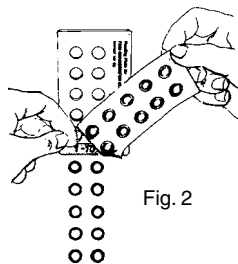

Fig. 2
**Check test sites** immediately after removal of the tests. A ring-shaped depression around each test (Fig. 2) verifies the occlusion and validates the test, especially in the case of negative reactions.
The serrated edge of the **Reading Plate** can be used to carefully cut the tape. Press the Reading Plate against the tape at about a 45° angle with the serrated end overlapping the top 1 cm of the tape (Fig. 2). Tear off the tape